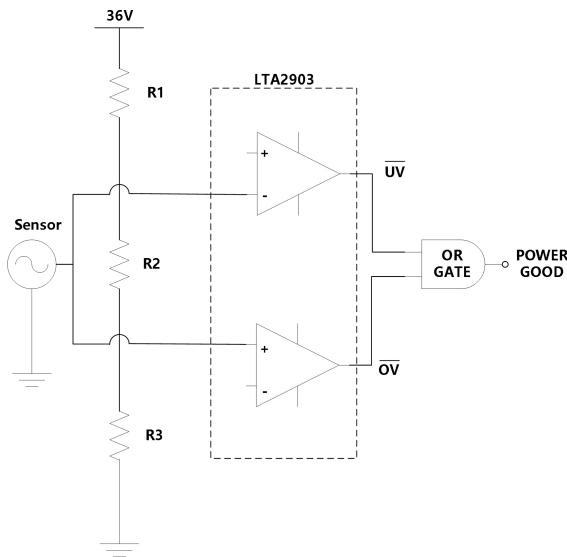

Figure 7: Window Comparator
Window Comparators are commonly used to detect undervoltage (UV) and overvoltage (OV) conditions. Figure 7 shows a simple window comparator circuit.
Configure the circuit as shown in Figure 7. Connect V_{S+} to a 36 V power supply and V_{S-} to ground. Make $R1$, $R2$ and $R3$ each 10Mohm resistors. These three resistors are used to create the positive and negative thresholds for the window comparator (V_{TH+} and V_{TH-}). With each resistor being equal, V_{TH+} is 24 V and V_{TH-} is 12 V. Large resistor values such as 10Mohm are used to minimize power consumption. The sensor output voltage is applied to the inverting and non-inverting inputs of the 2-channel LTA2903's. The respective comparator outputs will be low when the sensor is less than 12V or greater than 24 V. V_{OUT} will be high when the sensor is in the range of 12 V to 24 V. See the application curve in Figure 8.